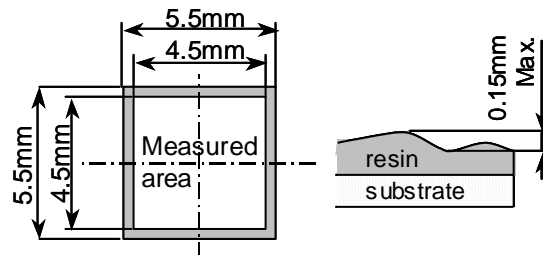

Fig.2 Measure area of surface coplanarity
- 2) Coplanarity of topside is less than 0.15mm. Measured area is 4.5 x 4.5mm from center of the module surface (Fig.2).